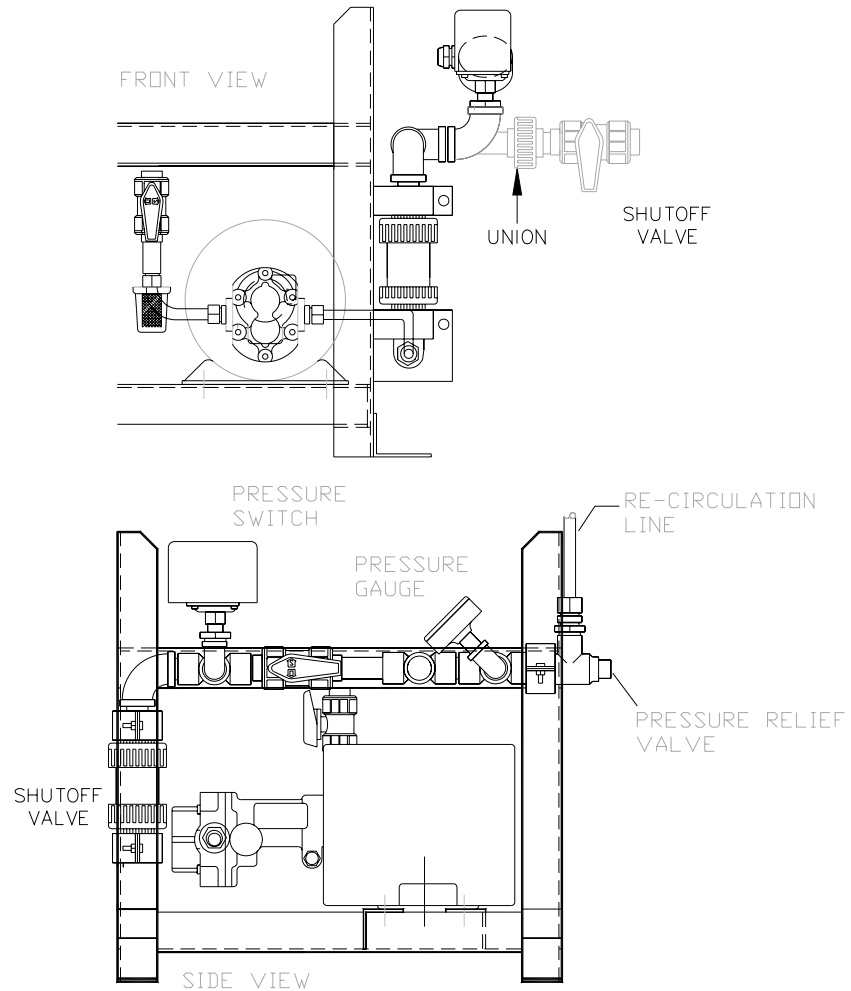

Figure 21 – Start-up Component Location
6. Remove the Pressure Switch cap (refer to *Figure 21*) to make pressure switch adjustments.